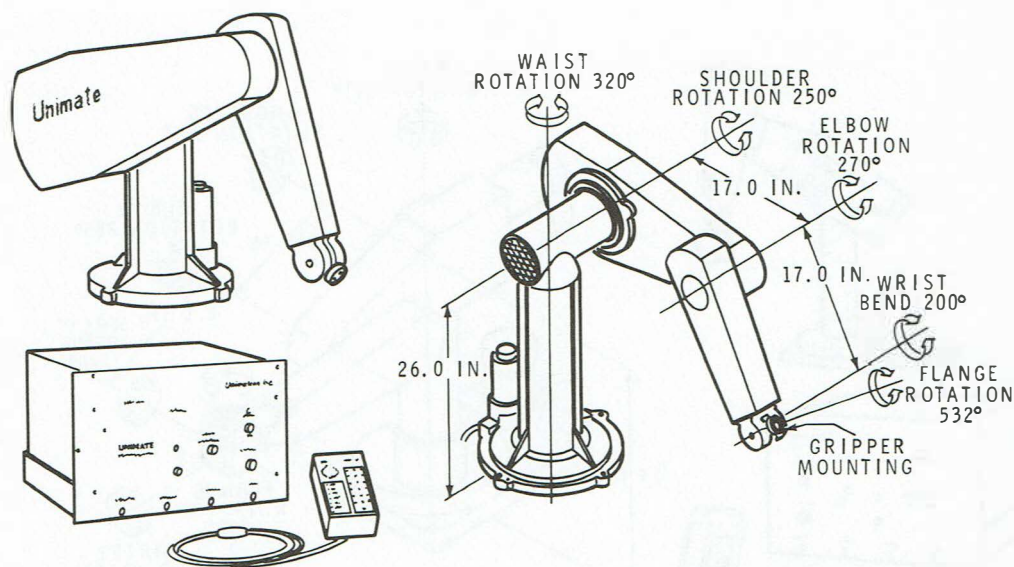

Figure 1-26
**500 Series** — The workhorse of the PUMA family, the 500, shown in Figure 1-26, is a five-axis robot with the same advanced control system as the 250 series. The manipulator is sized to human dimensions and designed to duplicate human motions. With its 1.0 m reach and heavier load capacity, this robot is capable of handling most industrial assembly, transfer, or packaging operations. While heavier than the 250 series, it retains the same ease of portability. Some of the typical applications are: